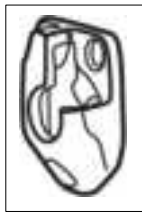

Fig. 1-5
- (5) Ensure bracket orientation is correct, see Fig 1-4 shows driver side and Fig 1-5 shows passenger side.